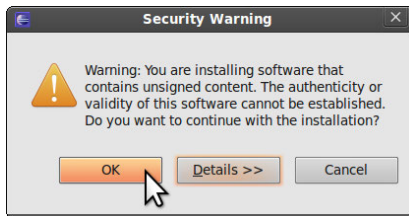

Figure 6-9. A warning related to unsigned packages
6. Wait a few minutes for the packages to download. Partway through the download, the program will ask for permission to install unsigned packages, as shown in Figure 6-9. You will need to permit this (click OK) to proceed.